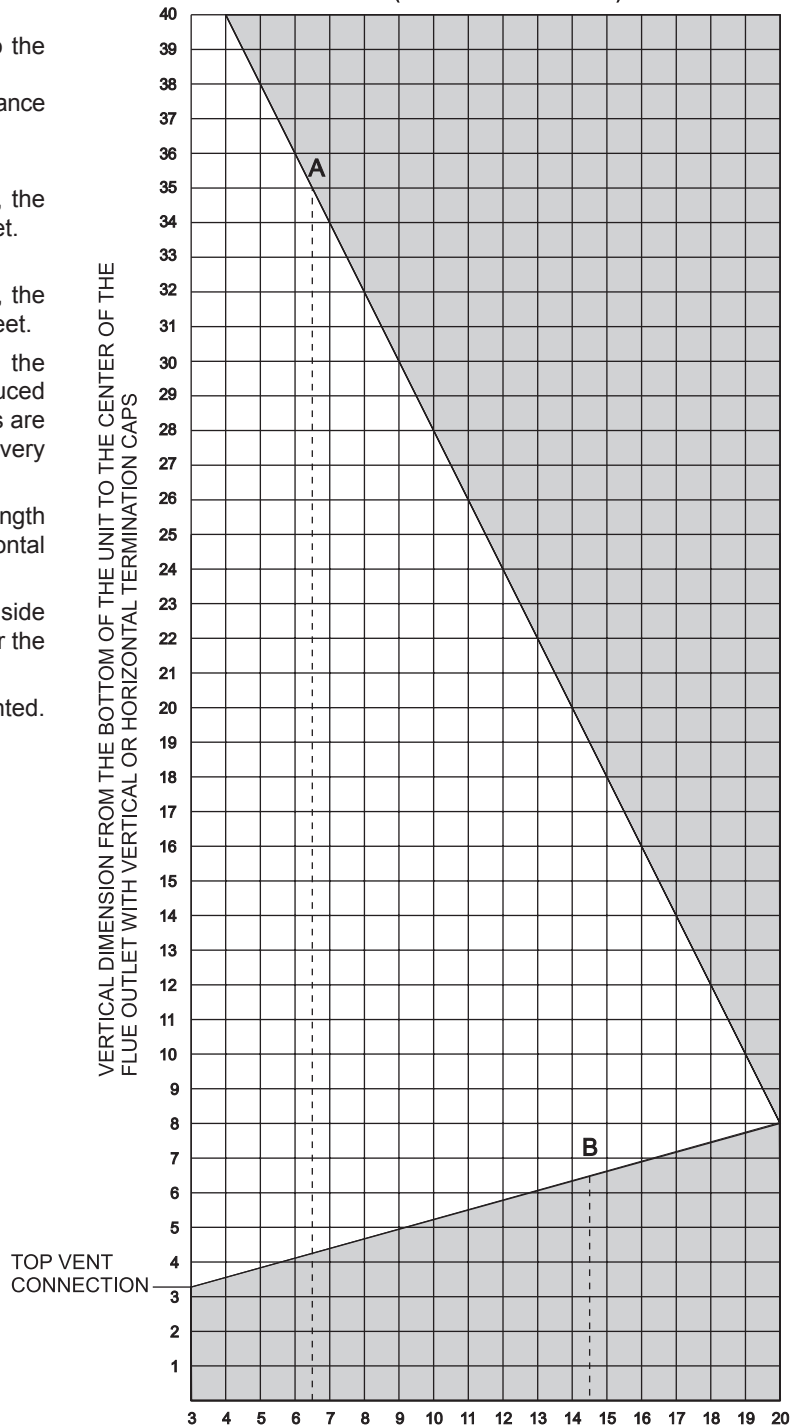

Figure 22
Attention: Refer to Figure 22 for additional venting requirements.
**SEE FIGURE 22 ON PAGE 18 FOR PERMISSIBLE "H" AND "V" DIMENSIONS.**